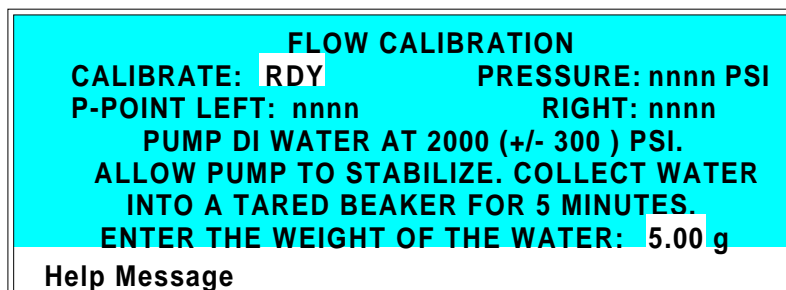

Figure D-9. Flow Calibration Screen
6. Calibrate the flow with the new pump heads. To do this, press **Menu, 8, 8,** and **4** to open the **FLOW CALIBRATION** screen (see Figure D-9). Select **CAL** and press **Enter**. Follow the directions on the screen to calibrate the flow.